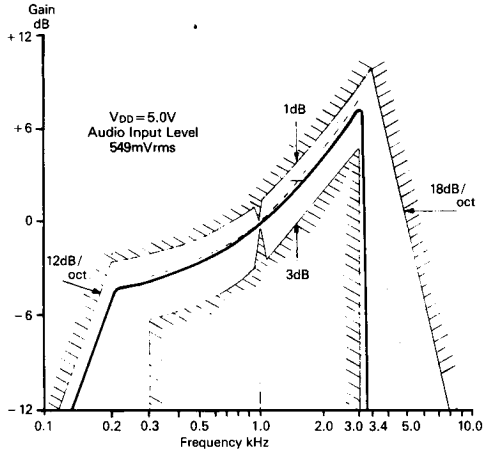

Fig. 4 Typical Audio Frequency Response of Transmit Path in 'Clear'
2. 'Clear' channel inputs are shown with Ch1 (pre-emphasis) and Ch2 (de-emphasis) components. See figures 4 and 5.
Figure 4 shows the FX304 'Clear' path response compared with the Net-C specification, using Pre-emphasis components at the input with a time constant of 200  $\mu$ s. See figure 2.